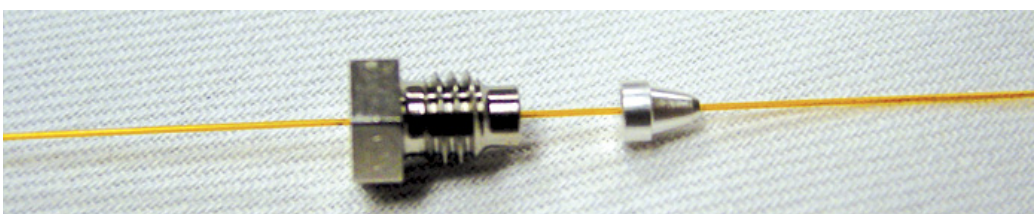

Figure 8 Removed ferrule pre-swaging tool
- 4 Remove the swaging tool (Figure 8).